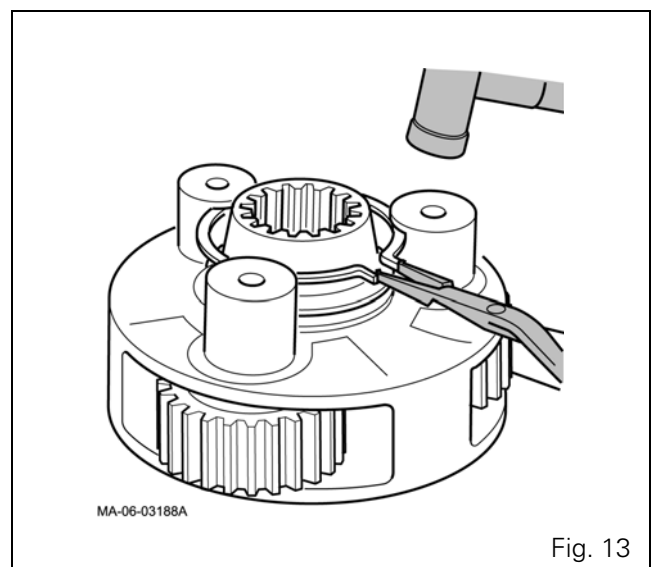

Fig. 13
54. Tap lightly on the three pins so that the snap ring fits into the groove of the planet carrier (Fig. 13).
55. Ensure that the tab washer (9) is present.